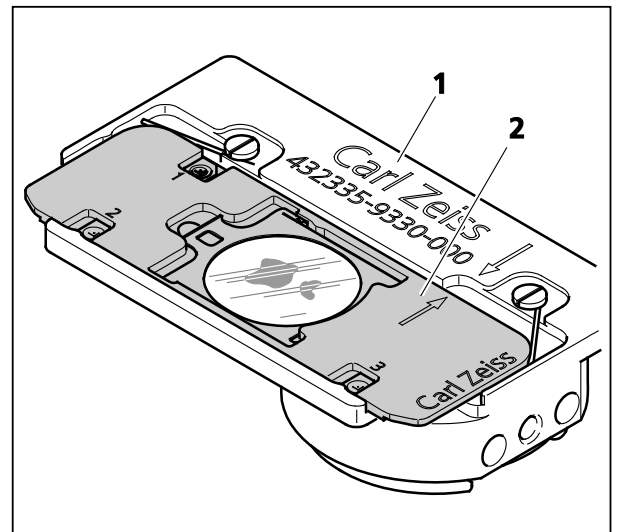

Fig. 184 Inserting the sample holder in the SEM adapter
- to use the specimen in a scanning electron microscope, remove the sample holder (Fig. 184/2) from the mounting frame of the microscope stage and insert it in the special SEM adapter (Fig. 184/1).